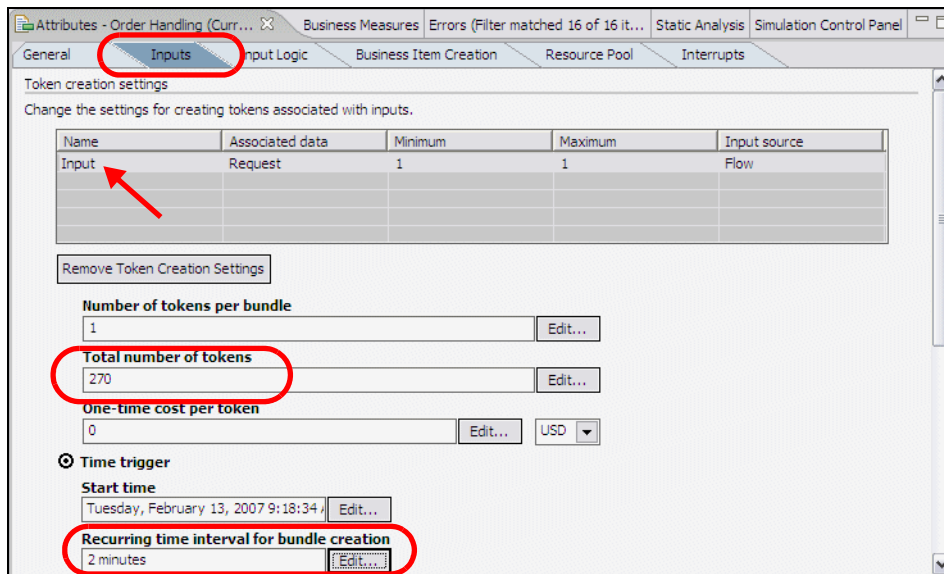

Figure 6-18 Simulation profile: Inputs
- Populate the *Inputs* tab with the Total number of tokens, and Recurring time interval for bundle creation (Figure 6-18).